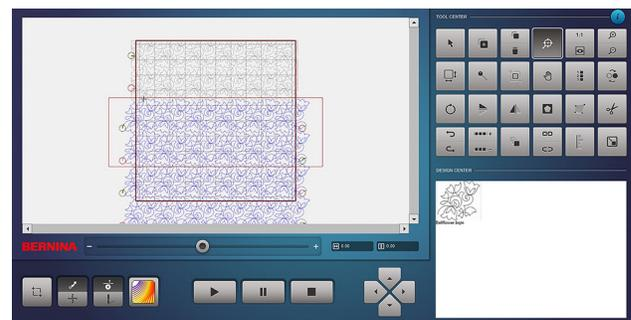

Fig. 65
5. Snap or reposition the snap point as many times as needed for precision before confirming with the green checkmark. Upon confirmation, the Safe Area will reposition itself to allow for the next row(s) to be stitched and the crosshairs of the Sewhead will “snap” to the needle (Fig. 65).